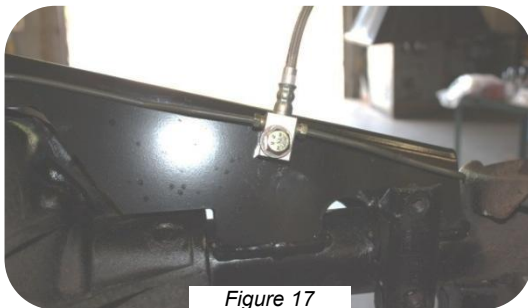

Figure 17
95. Mount rear brake hose to the front side of the truss (see figure 17).
96. Run new hard lines from brake T-fitting to wheel cylinders (see figure 17).